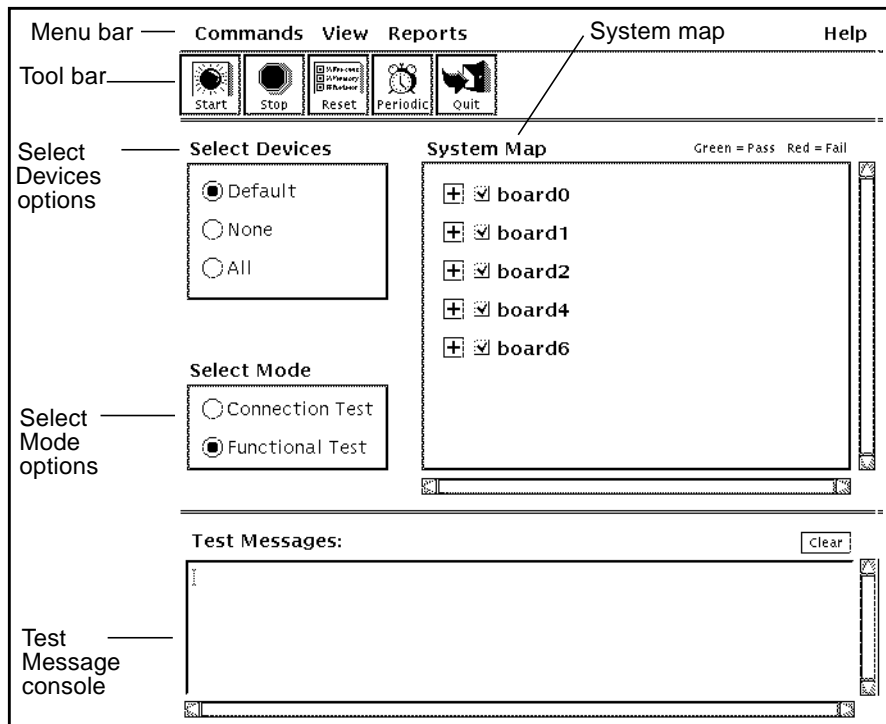
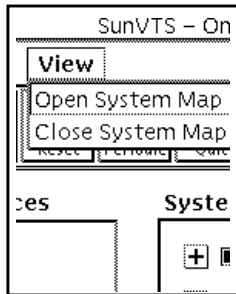

FIGURE 3-6 SunVTS Online Diagnostic Tool
FIGURE 3-14 View Menu
The Online Diagnostics icon launches the SunVTS Online GUI. This GUI is used to perform online diagnostics and troubleshoot components (see FIGURE 3-6).
To schedule testing at a future time, either periodically or for one time, use the Periodic Testing feature under the Commands menu. When you click the Online Diagnostics console, the following screen is displayed (see FIGURE 3-6).
TABLE 3-3 describes the features shown in FIGURE 3-6.
- To run a test on one device or just a few devices, select None. Select the device(s) you want tested by clicking the device name or checkbox (see FIGURE 3-6).
The View menu on the main SunVTS Online Diagnostics screen (see FIGURE 3-14) lets you expand or contract the system hierarchy (also known as the System Map in FIGURE 3-6) and has two options:
The Reports menu on the main SunVTS Online Diagnostics screen (see FIGURE 3-6 and FIGURE 3-15) enables you to view the system configuration or various log files.